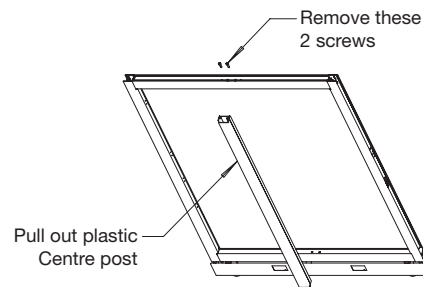

Fig 3
2. In some instances, the panel will have a plastic centre post that was installed by the factory. If so, remove the plastic centre post by removing the screws located in the top horizontal holding it in place. The plastic centre post can now be removed by pulling it out. **Fig 3**